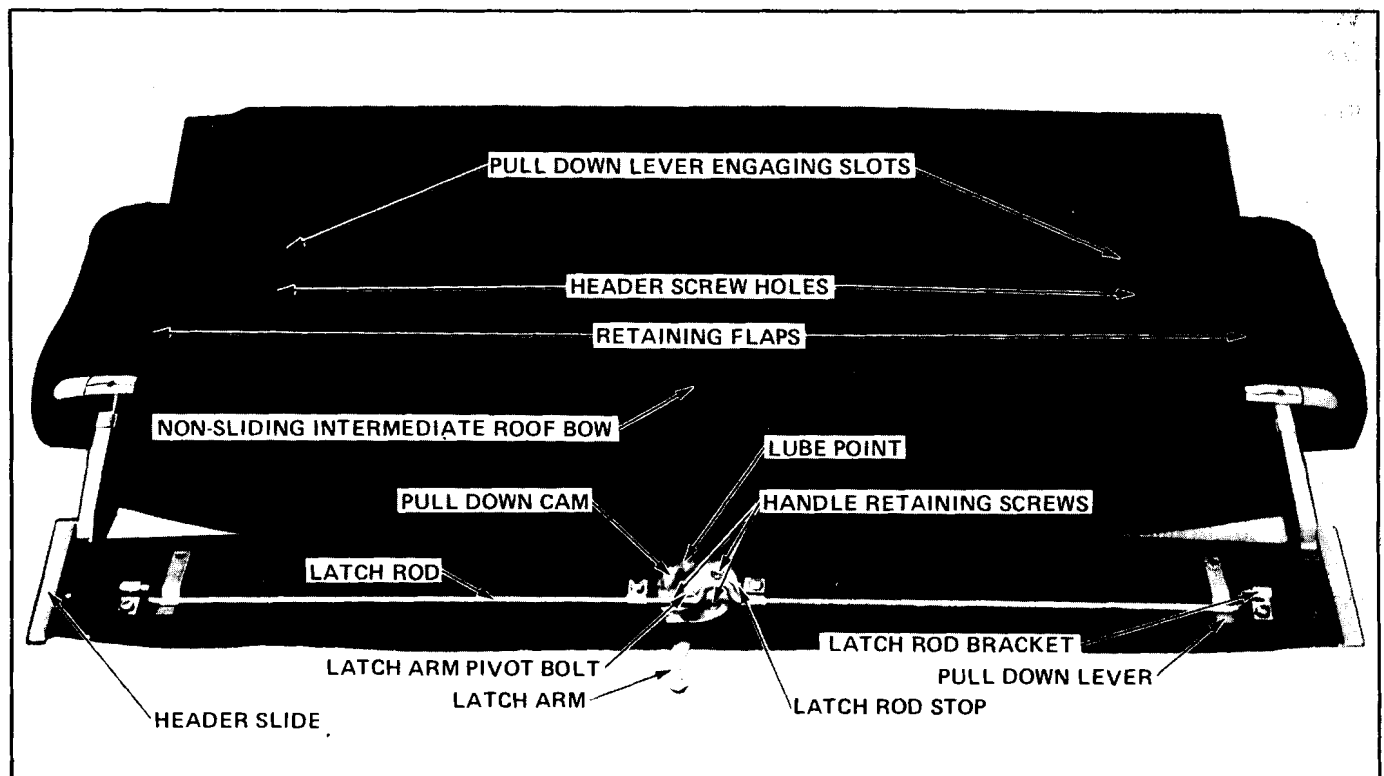

Fig. 15-57B Latching Mechanism
2. Separate the two (2) layers of top material between the header and the first sliding roof bow. Carefully remove the staples from the small retaining flaps. Pull ends of first non-sliding roof bow out of pockets in outer top material.
3. Remove the two (2) flat head screws from the upper surface of the header panel using a flat blade stubby screwdriver. The screws are located 6" from each end of the header.
4. Separate the header and fold back the top half to expose the latching mechanism (Fig. 15-57B).
Refer to Figure 15-57B